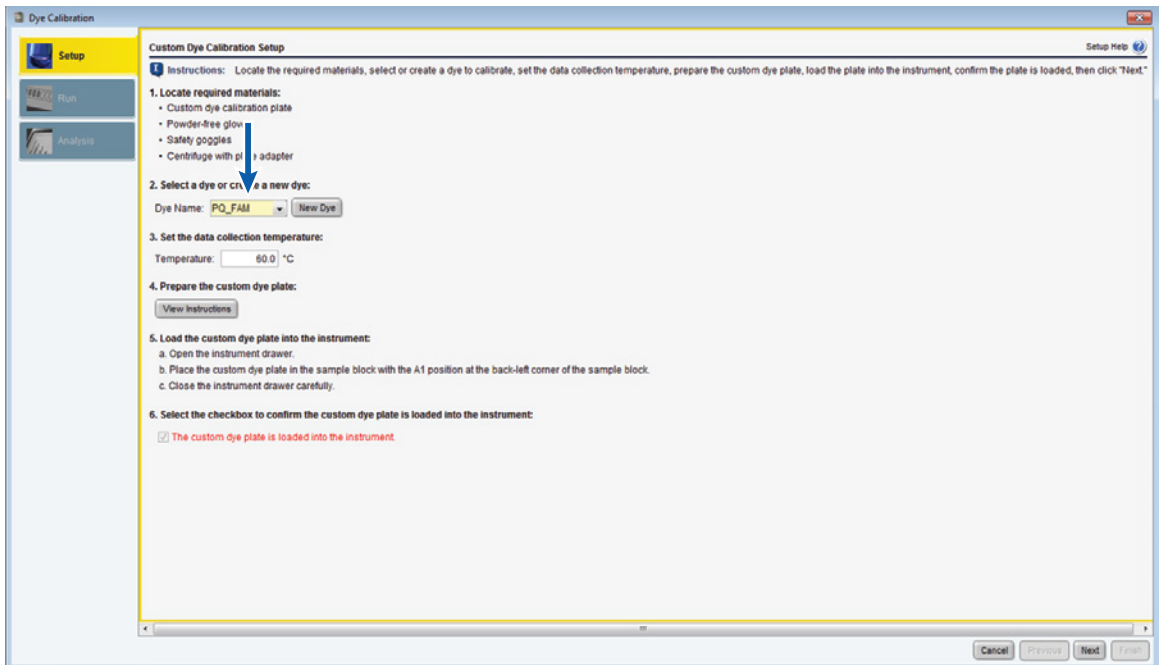

Figure 10. Selecting the dye name from the drop-down list.
10. In the Custom Dye Calibration Setup window, select **PQ_FAM** from the 'Dye Name' drop-down list (Figure 10).
12. Check the box labeled “The custom dye plate is loaded into the instrument” (Figure 10).